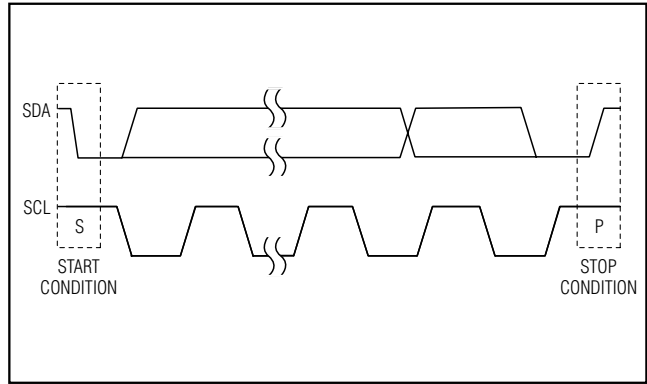
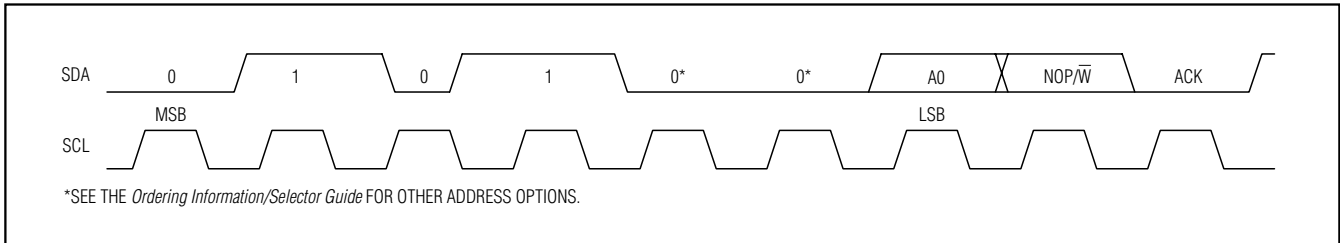
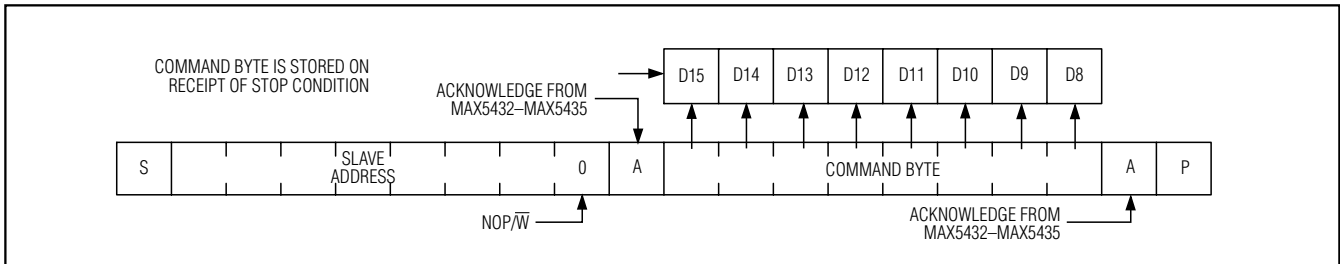

Figure 3. Start and Stop Conditions
Figure 4. Slave Address
Figure 7. Command Byte Received
Each transmission consists of a START (S) condition (Figure 3) sent by a master, followed by the MAX5432–MAX5435 7-bit slave address plus the 8th bit (Figure 4), 1 command byte (Figure 7) and 1 data byte, and finally a STOP (P) condition (Figure 3).
high while SCL is high. The bus is then free for another transmission (Figure 3).
The MAX5432–MAX5435 have a 7-bit-long slave address (Figure 4). The 8th bit following the 7-bit slave address is the NOP/ $\bar{W}$  bit. Set the NOP/ $\bar{W}$  bit low for a write command and high for a no-operation command.